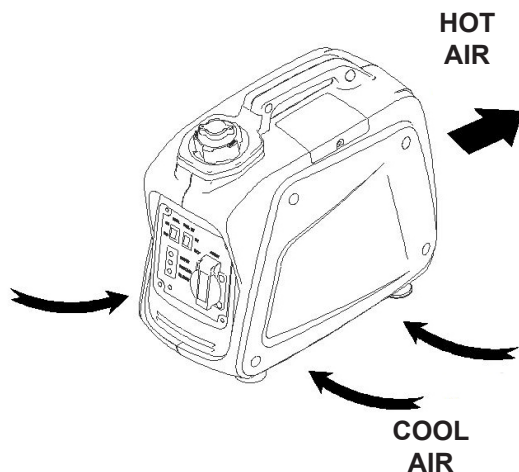

Figure 2
- Operate the generator on a level, flat surface in a well ventilated, dry location, away from other equipment (see Figure 2).